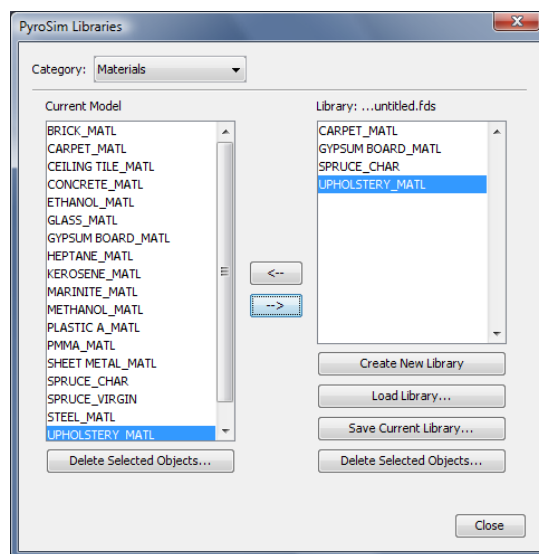

Figure 145. Creating a library of materials
2. Select the **Category** that you want to manage and move selected items from the **Current Model** into the **Library**, Figure 145.